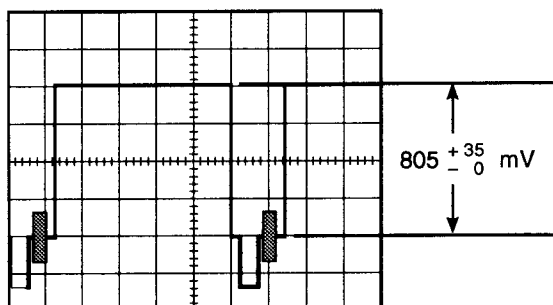

Fig. 5-35
- Confirm that signal level becomes 805 ± 35 mV as shown in Fig. 5-35.
- If not, adjust data with the **ARROW** keys so that signal level becomes 805 ± 35 mV as shown in Fig. 5-35.